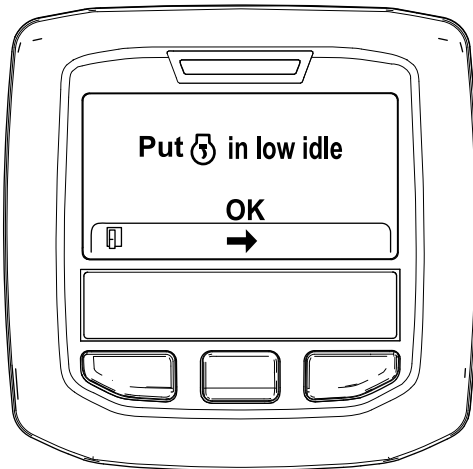

Figure 52
6. Move the throttle control to LOW IDLE and press the center button (Figure 52).